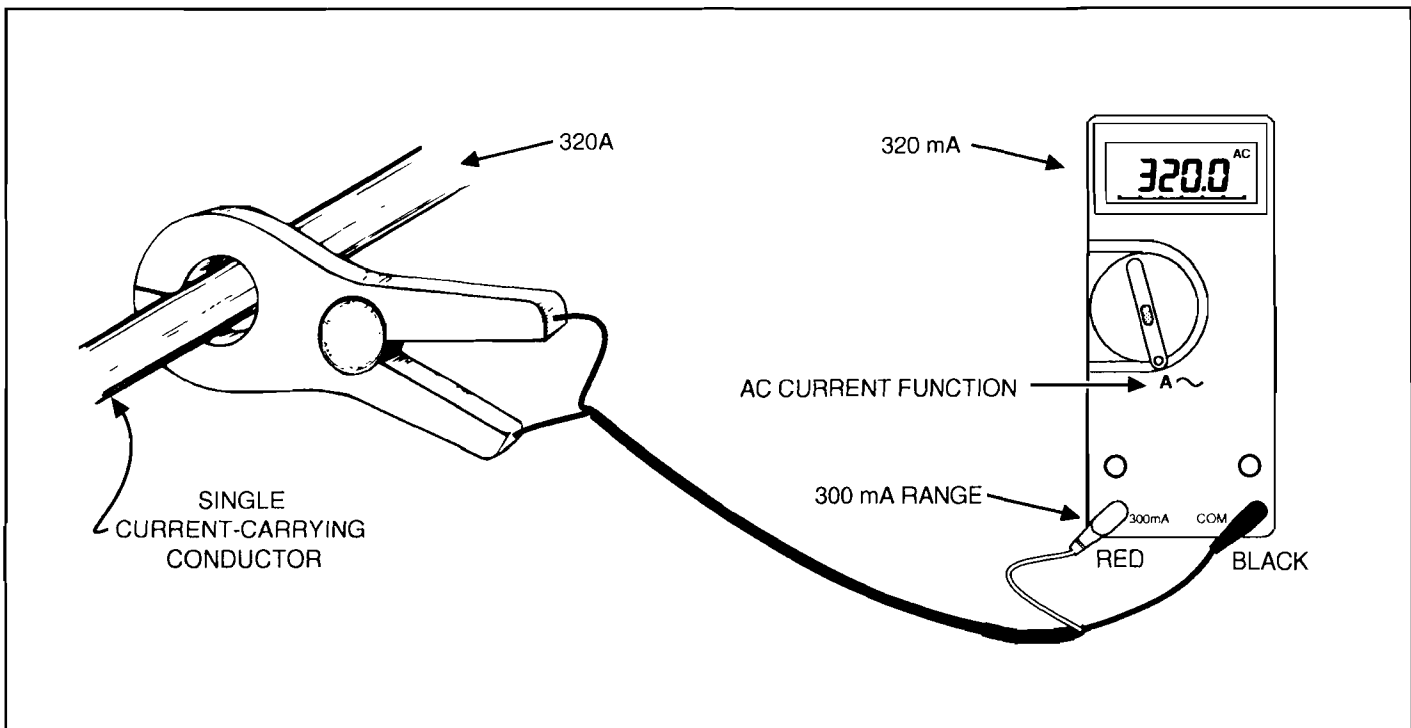

Figure 1. Typical 80i-600 Using a Typical Meter
When the 80i-600 is connected to a compatible current meter and clamped around a single current-carrying conductor, the meter reading will be one 1000th of the actual current in the conductor. For example, a 5-ampere (A) input current will be transformed into a 5 milliampere (mA) output current (see Figure 1).
3. Clamp the probe around the current-carrying conductor to be measured (see Figure 1). Make sure the probe jaws are tightly closed around the conductor.